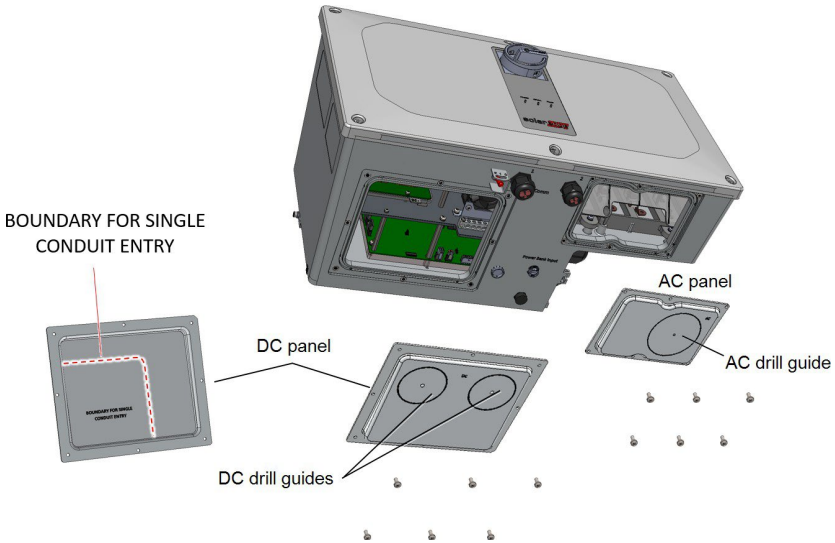

Figure 15: AC and DC panels with drill guides at the bottom of the Synergy Manager
3. Locate the drill guides for conduits on the DC and AC panels. Drill entry hole(s) for up to 2" conduit on the DC panel and 2.5" on the AC panel or drill entry hole for a single conduit, within the boundary marked on the inner side of the DC panel (see *Figure 15*).